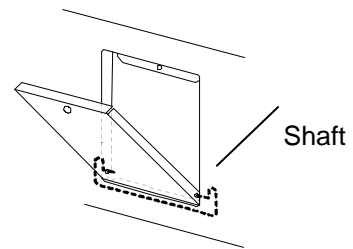

Fig. 5
2. Remove the screw on the cover for the recorder space on the lower front of the freezer. Open the cover and push the shaft on the both sides outward to remove the cover. Fig. 5